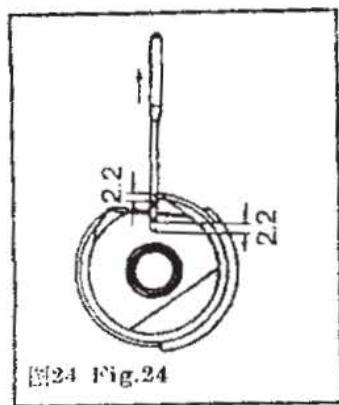

图24 Fig.24
- (1) 旋转的勾线尖，应与机针的中心线一致；
- (2) 在此位置时，每段线应高于机针孔上边 2毫米（图 24）。
- (1) Looping point of rotary hook should be in with the mid-line of needle;
- (2) Looping point should be 2mm higher than the hole of needle (Fig.24)
The top of feed dogs should be  $0.8 \sim 1$  mm higher than the level of needle plate when the feed dogs rise in the highest position. If sewing special heavy or light materials, the gauge of feed dogs should be regulated. When adjusting, first loosen the fixed screw 1 (Fig.24) of lifting belt crank.